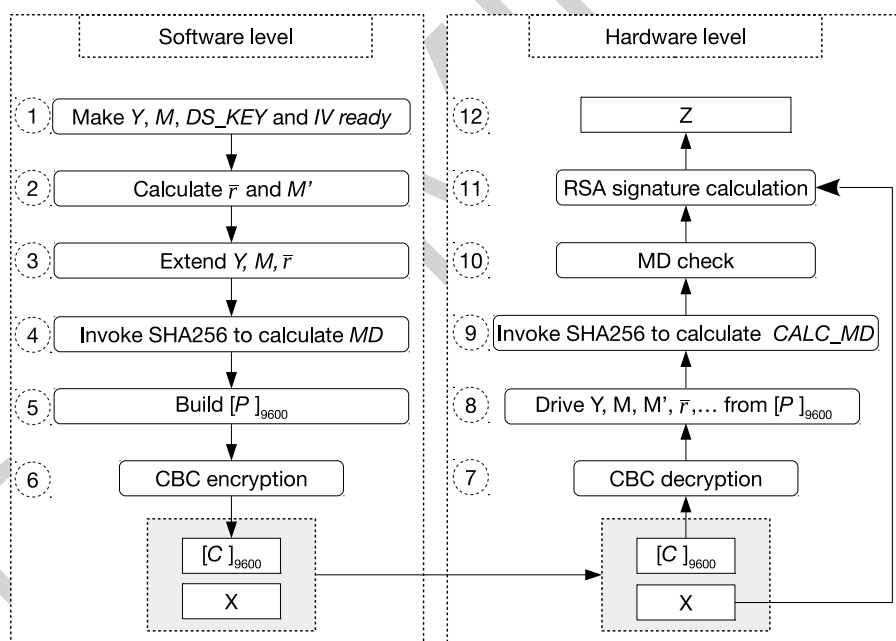

Figure 20-1. Software Preparations and Hardware Working Process
If users want to use the DS module for digital signature, the software and hardware must work closely to implement this successfully, and the software needs to do a series of preparations, as shown in Figure 20-1. The left side lists preparations required by the software before the hardware starts RSA signature calculation, while the right side lists the hardware workflow during the entire calculation procedure.
1. The software preparation (left side in the Figure 20-1) is a one-time operation before any signature is calculated, while the hardware calculation (right side in the Figure 20-1) repeats for every signature calculation.
You need to follow the steps shown in the left part of Figure 20-1 to calculate C . Detailed instructions are as follows:
1. Decryption: Step 7 and 8 in Figure 20-1
The decryption process is the inverse of Step 6 in figure 20-1. The DS module will call AES accelerator to decrypt C in CBC block mode and get the resulted plaintext. The decryption process can be represented by $P = \text{AES-CBC-DEC}(C, DS_KEY, IV)$, where IV (i.e., $[IV]_{128}$) is defined by you. $[DS_KEY]_{256}$ is provided by HMAC module, derived from $HMAC_KEY$ stored in eFuse. $[DS_KEY]_{256}$, as well as $[HMAC_KEY]_{256}$ are not readable by users.
2. Check: Step 9 and 10 in Figure 20-1
The DS module will perform two checks: MD check and padding check. Padding check is not shown in Figure 20-1, as it happens at the same time with MD check.
3. Calculation: Step 11 and 12 in Figure 20-1